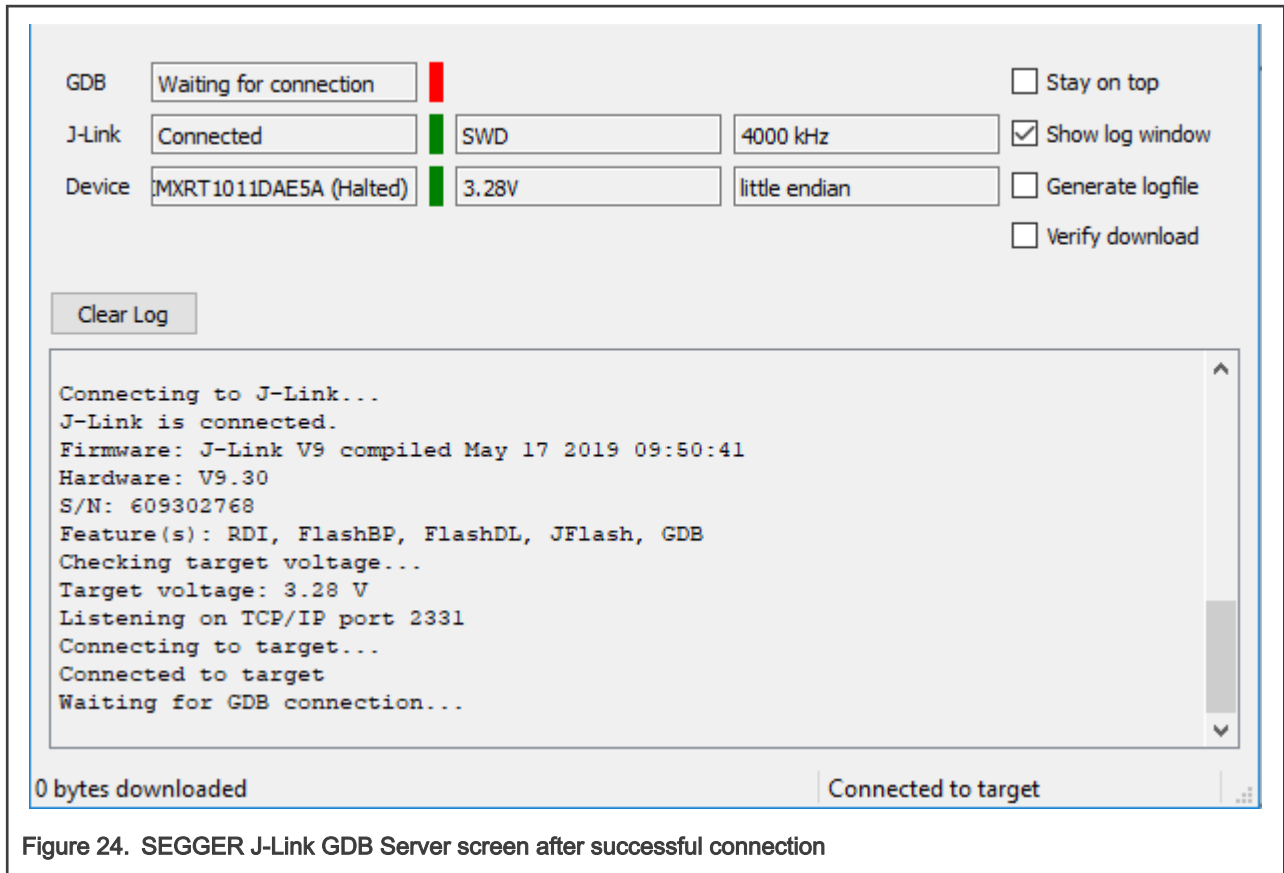

Figure 24. SEGGER J-Link GDB Server screen after successful connection
6. After it is connected, the screen should resemble Figure 24.